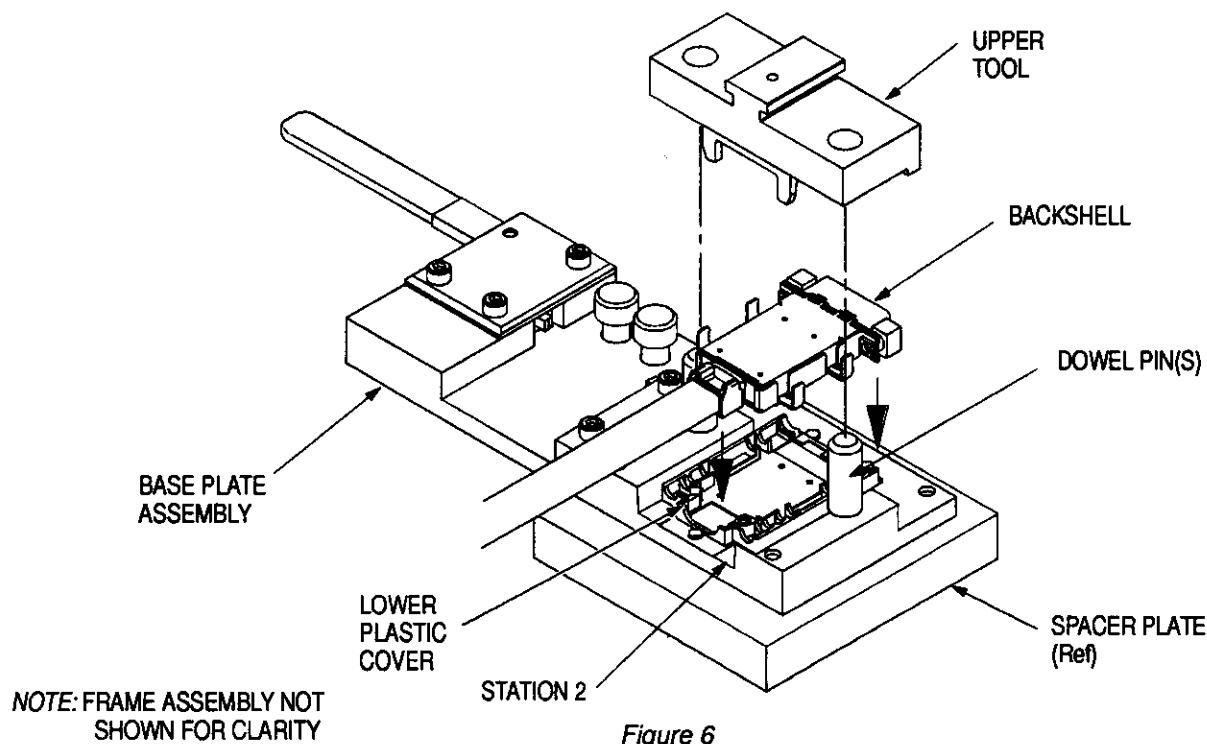

Figure 6
3. Position the lower plastic cover into Station 2 of the base plate assembly. The cover must be positioned between the dowel pins, as shown in Figure 6.
4. Position backshell onto the lower plastic cover. See Figure 6.